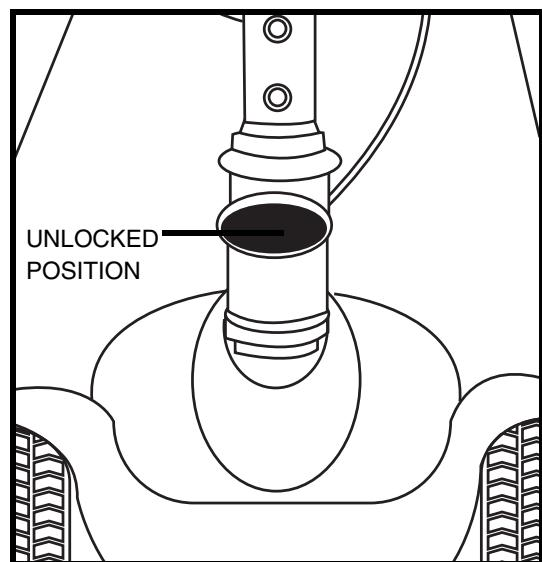

Figure 21A. Tiller Lock Knob (Unlocked)
6. Unlock the front wheel by turning the tiller lock knob 90° counterclockwise. See **figure 21A**.